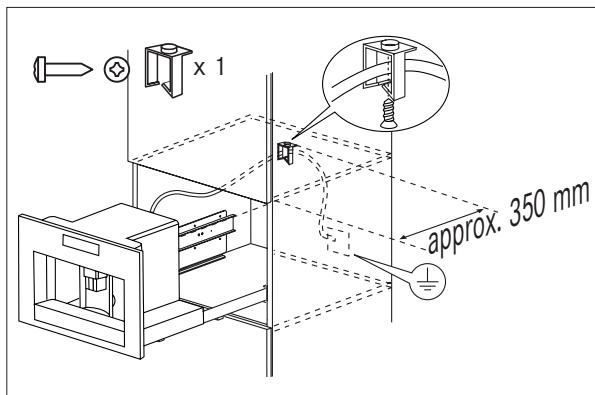

Fig. 6
- ▶ Fix the power cable with the clip (Fig. 6). The power cable must be long enough to allow the appliance to be extracted from the cabinet to fill the coffee bean container.